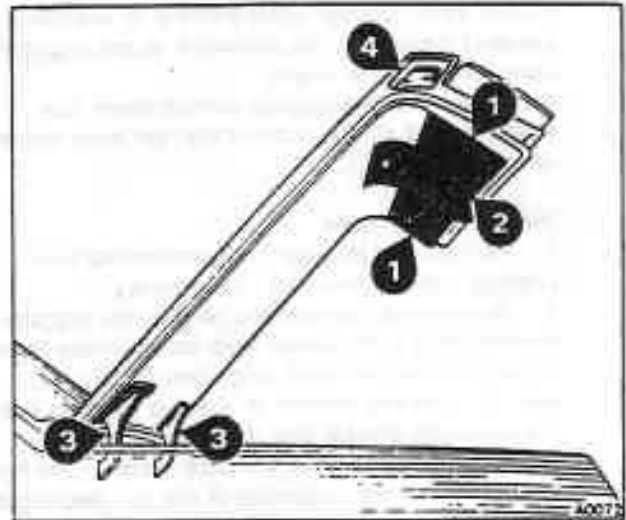

Fig. S13-1 Carpet and trim panels
Carpet and trim panels - To remove and fit (see fig. S13-1)
2. Remove the hinge cover trim (see fig. S13-1, item 3).
2. Unscrew and lower the centre trim panel (see fig. S13-1, item 2). Disconnect the luggage compartment lamp leads. Note the position of the leads to ensure correct assembly.
3. Disconnect the catch mechanism control rod (item 1) from the release lever.
4. Unscrew and remove the catch mechanism shield, if fitted (item 2).
6. Remove the four screws (item 3) and washers securing the catch mechanism.
4. Drill out the three pop rivets (item 2) securing the release handle. Remove the retaining plate, handle, and seal.
5. Disconnect the electrical leads (item 3) at the terminal block. Note the colour and position of the leads to ensure correct assembly.
6. Release the loom from the clip situated on the lock mounting bracket (item 4).
7. Remove the two bolts (item 5), nuts, and washers that secure the lock mechanism. Carefully withdraw the mechanism from the luggage compartment lid.
8. Remove the release lever springs (item 6).
9. Unscrew the securing nut and remove the private lock unit (item 7).
10. Remove the Starlock washer (item 8) from the actuator spigot. Manoeuvre the actuator (item 9) clear of the guide bracket and release lever pins.
12. Remove the solenoid mounting screws and washers then withdraw the solenoid/connecting link assembly (item 10). The solenoids can then be separated from the connecting link by removing the roll pins.
8. Loosen the two screws securing each micro-switch (item 6). Then, remove the switches from the guide bracket lugs.
9. Remove the release lever springs (item 7).
10. Remove the Starlock washer (item 8) from the actuator spigot.
12. Remove the screws and washers securing the guide bracket (item 9) and the solenoid assemblies. Withdraw the guide bracket clear of the actuator spigot. Then, remove the bracket together with the solenoid/connecting link assembly (item 10) from the lock mounting bracket. The solenoids can then be separated from the connecting link by removing the roll pins.